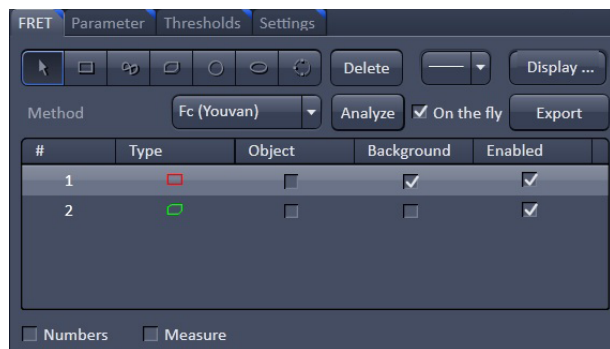
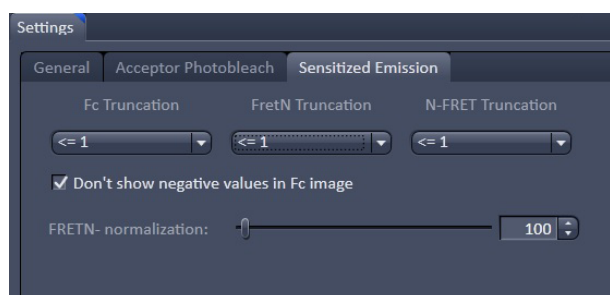

**Fig. 573 FRET View Options Control Block, Settings tab, General**
Fig. 578 FRET View Options Control Block, Settings tab, Sensitized Emission
**Settings tab (Fig. 573):**
### Settings tab (Fig. 573 and Fig. 578):
The **General** (Fig. 573) tab applies to both methods, Acceptor Photobleaching and Sensitized Emission.
The **Sensitized Emission** (Fig. 578) tab sets additional Truncation parameters for each method to analyze the Sensitized Emission experiment such as the choice for **No truncation**, **Remove maximum** or the truncation of values above 1 ( $\leq 1$ ), 2 ( $\leq 2$ ) or 3 ( $\leq 3$ ).